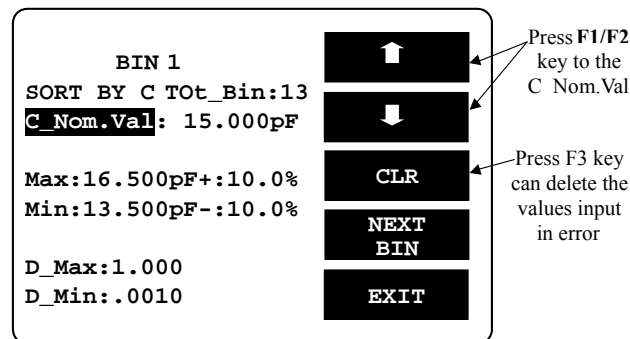

Figure 8-16
- Press  key. Please refer to Figure 8-16 below.